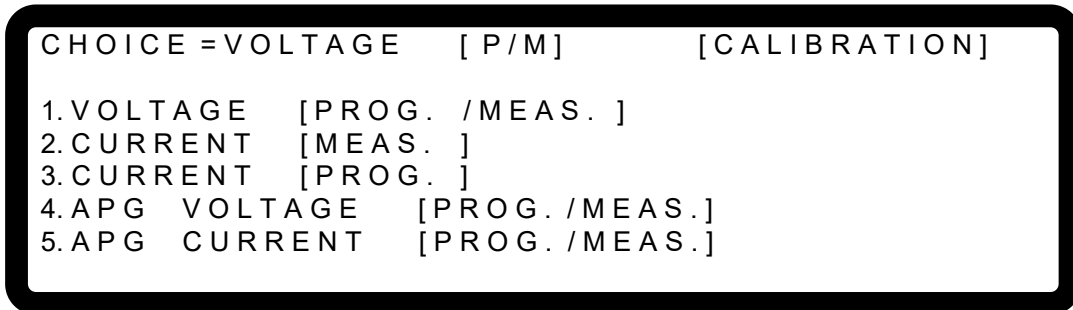

Figure 3-96
2. Enter the password and press “**ENTER**” to confirm. The screen will display 4 calibration options as Figure 3-96 shows. The calibration steps are described from section 3.3.7.1 to 3.3.7.5.
1. Enter into the page of Figure 3-96.